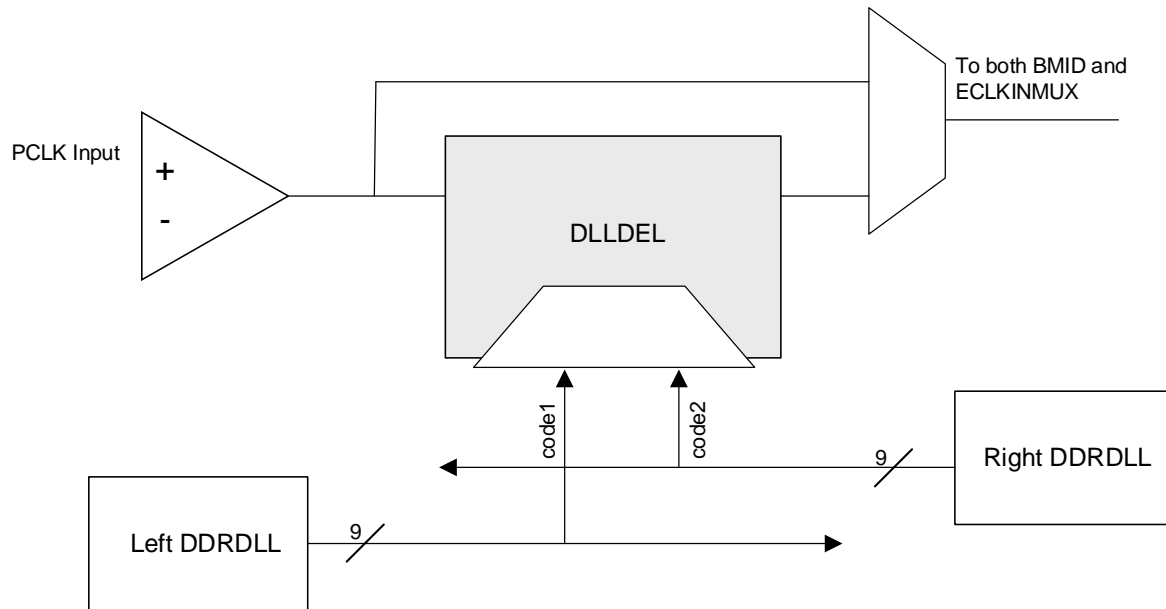

Figure 2.11. DLLDEL Functional Diagram
- The value is also sent to another slave DLL, DLLDEL, that takes a primary clock input and generates a 90-degree shifted clock output to drive the clocking structure. This is useful in an edge-aligned Generic DDR interface, where 90-degree clocking needs to be created. Not all primary clock inputs have associated DLLDEL control. Figure 2.11 shows DDRDLL connectivity to a DLLDEL block (connectivity to DQSBUF blocks is similar).